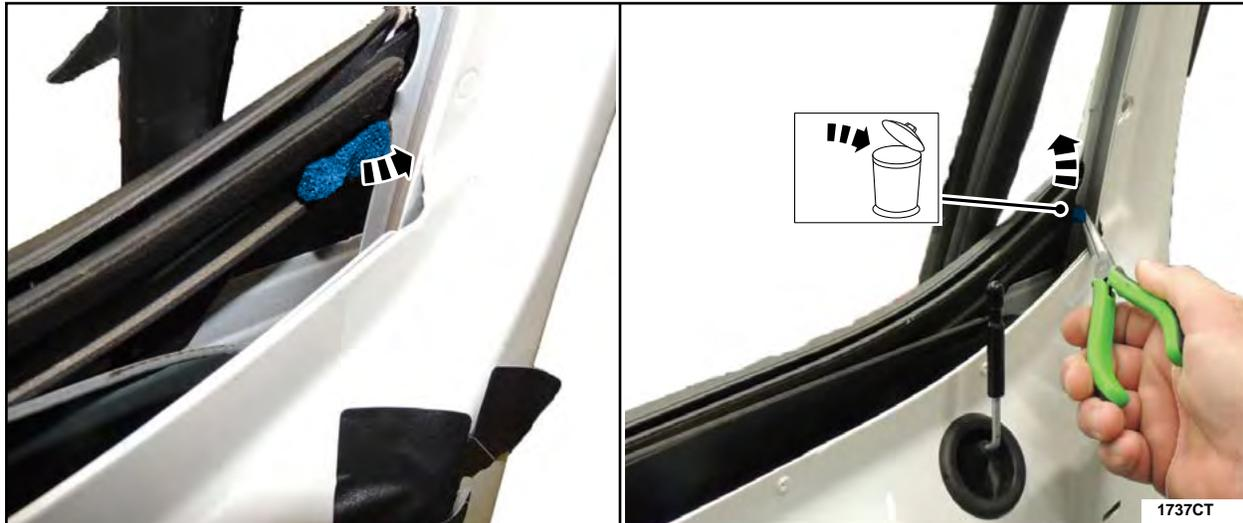

FIGURE 65
7. If present, remove and discard the foam on the door outer belt moulding at the location shown in Figure 65.